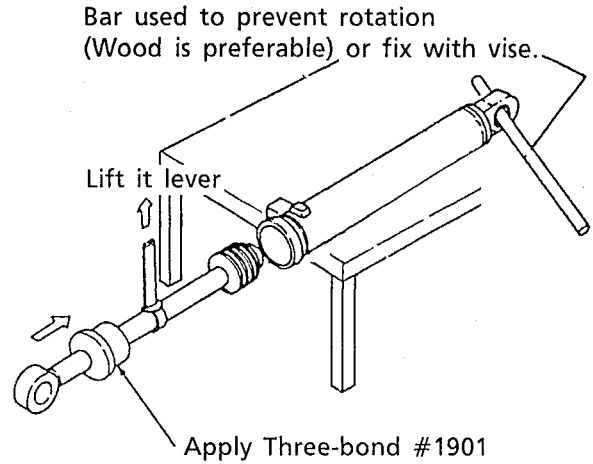

Fig. 1-36 Installing piston rod
(1) Place a V-block on a rigid work bench (A wooden V-block is preferable.). Mount the cylinder tube assy (1) on it and fix the assy by barring a bar through the attaching pin hole to lock the assy. (Fig. 1-36)
(2) Insert piston rod (2) into cylinder tube (1) while hanging and moving it with crane. Then, apply hydraulic oil on tube lip inner side and piston outer surface and insert horizontally aligning the center of piston rod and center of cylinder tube.